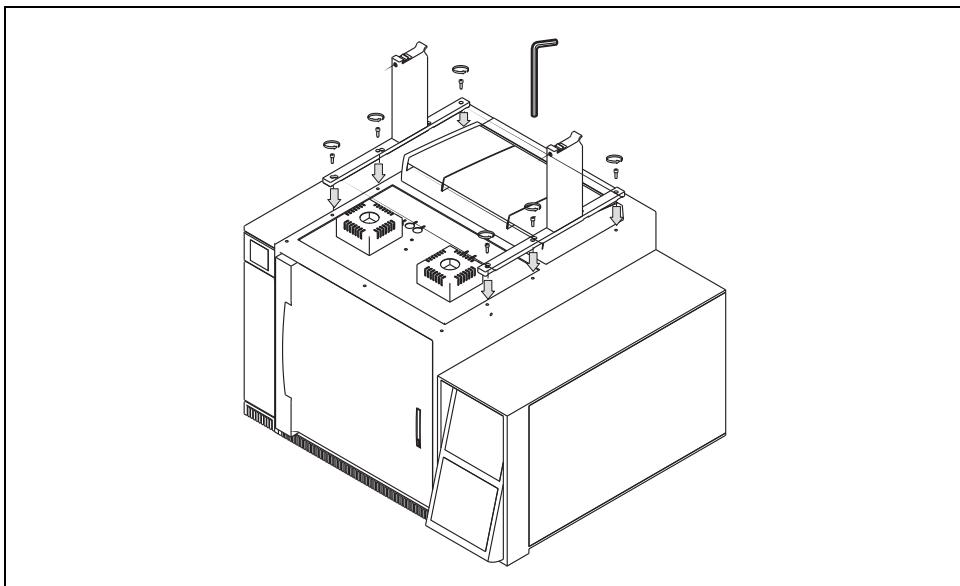

Figure 3-20. Sampler Supports Installation on a Mega 2 - GC 8000 - GC 8000 Top (1)
3. Mount each sampler support on the GC paying attention to have the support leg turned toward the back of the GC as shown in Figure 3-20.